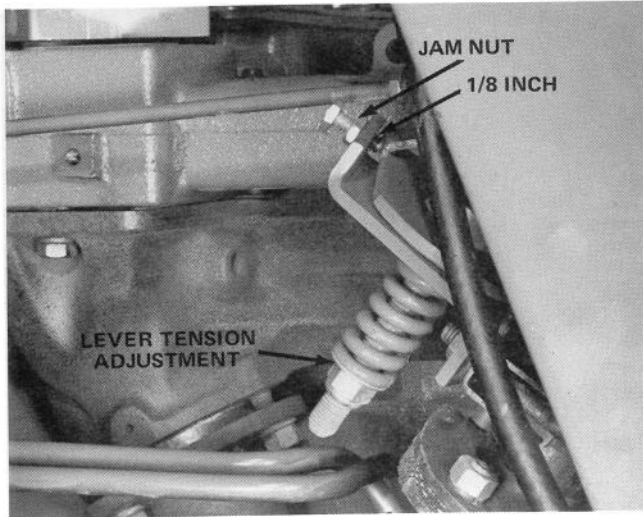

Figure 68
2. Adjust the low speed stop screw so 1/8 inch protrudes through the bracket as shown in Figure 68. Secure with the jam nut.
8. If the throttle lever "creeps" at high speeds, tighten the nut shown in Figure 68 to apply additional tension to the lever.